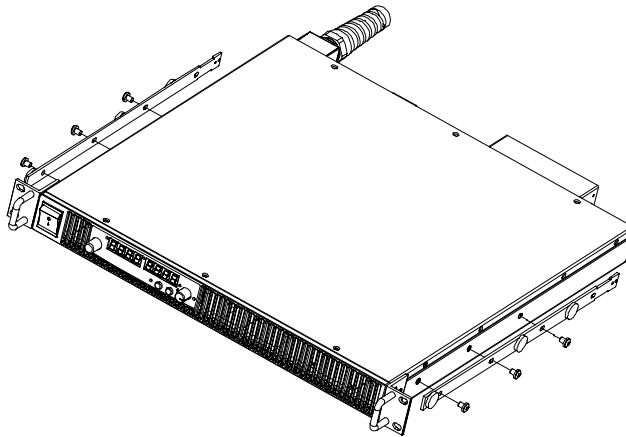

Figure 7 Removing Chassis Member From Slides
4. Remove the chassis member from the slides and assemble to the chassis using M5 × 6 mm pan head screw SST (6X) which are not supplied. See Figure 7.
Important: Figure 7 shows the chassis member for slide 375QD-18. The chassis member will be longer for Jonathan slide 375QD-26/28.